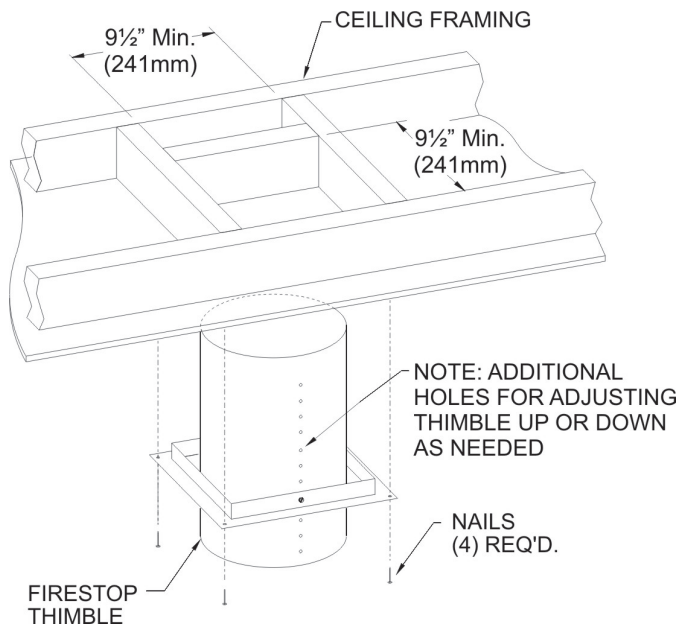

Figure 32
4. Once the fireplace location has been determined, mark the ceiling where the flex vent will pass through. Cut an opening in the installation of the firestop thimble assembly. The opening must measure a minimum of 9-1/2" x 9-1/2" square. **See Figure 32.**